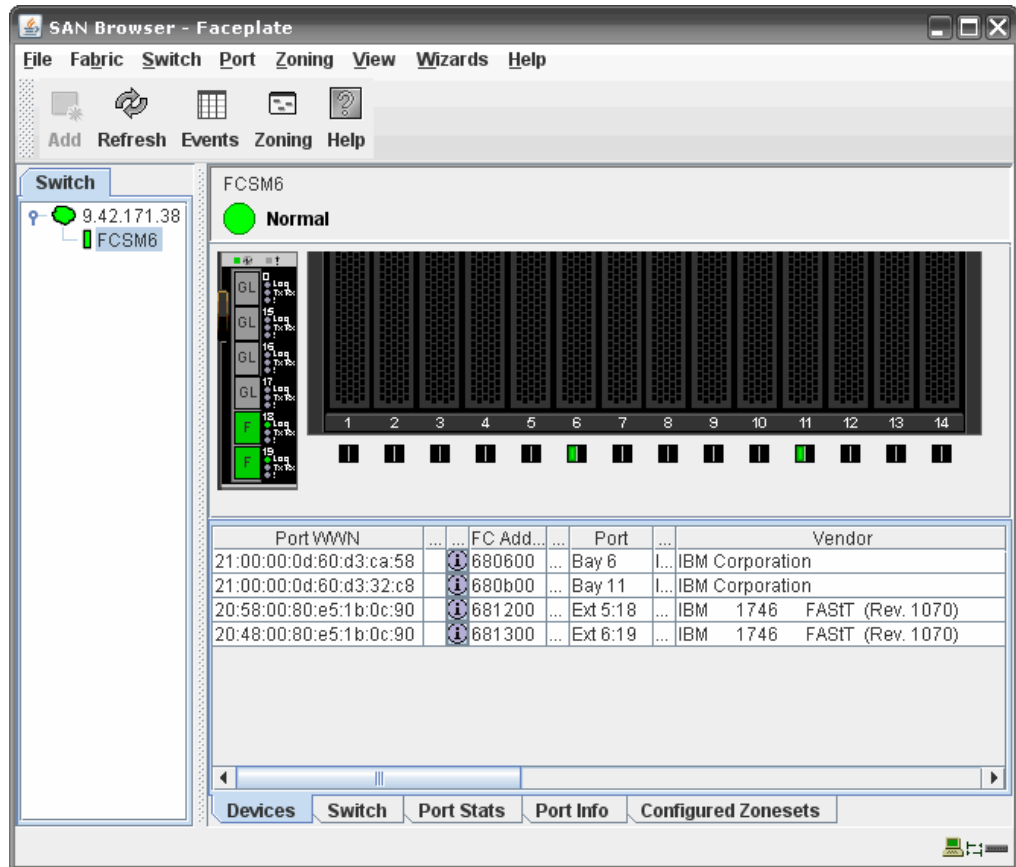

Figure 20-32 Qlogic San switch
- a. Log in to the Qlogic Switch and a window similar to Figure 20-32 on page 614 will be displayed. The window shows that the blade server in slot 6 and the blade server in slot 11 are connected to the internal ports of the Qlogic switch. On the left, it is possible to see the WWN that identifies each HBA host port. On the other hand, it also shows that two ports of the storage that are connected to the external ports of the switch (port 5 and port 6). We need to create a zone (BootZone) on this switch to include the WWN from the blade in slot 6 (that is our server for this sample configuration) and one port of the storage controller as indicated by the Red line in Figure 20-32 on page 614.